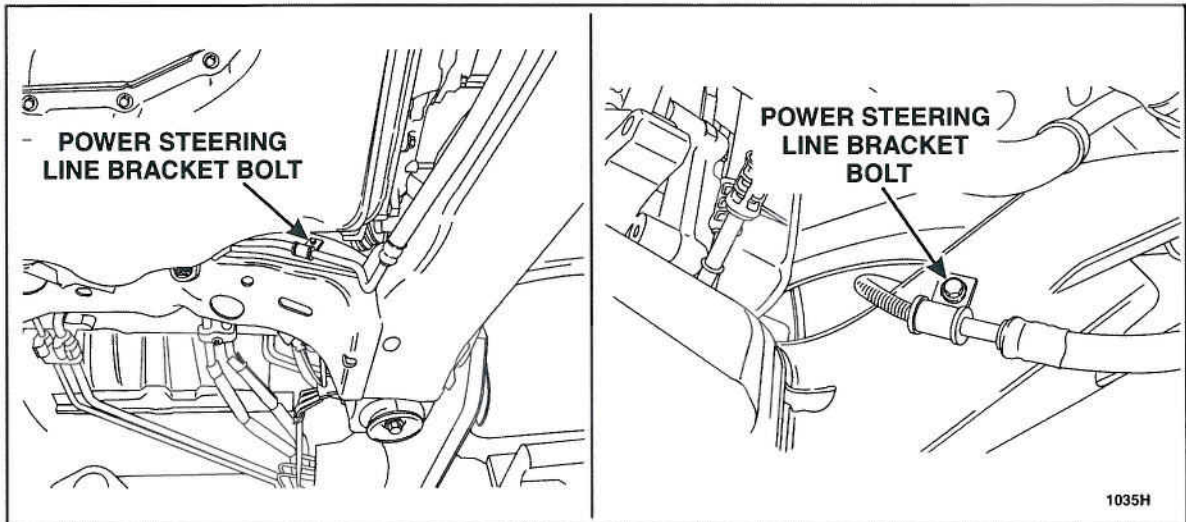

FIGURE 14
33. Remove the bolts for the power steering line brackets. See Figure 14.